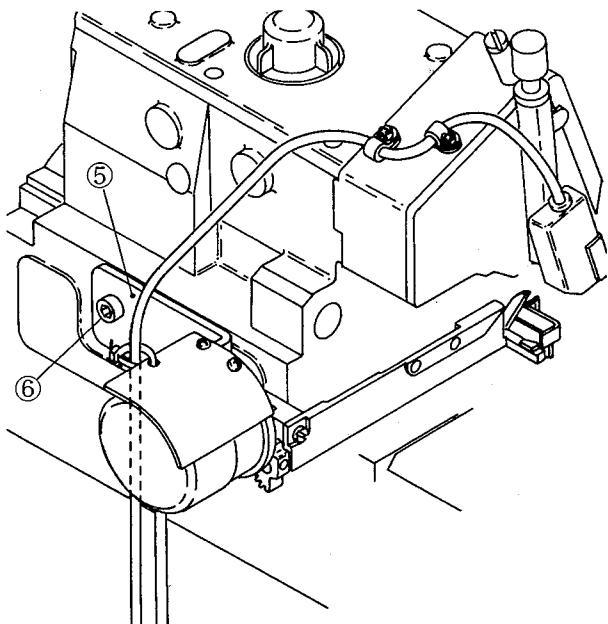

Fig.9
- 2) Tighten the screw③ at the flat place on the shaft of upper knife so that the clearance between the driving gear① and upper knife holder② is 1 mm.
- 3) Make some clearance between the drive gear④ and the driving gear① by changing the position of solenoid holder⑤ after loosening two screws⑥. (Fig. 9)